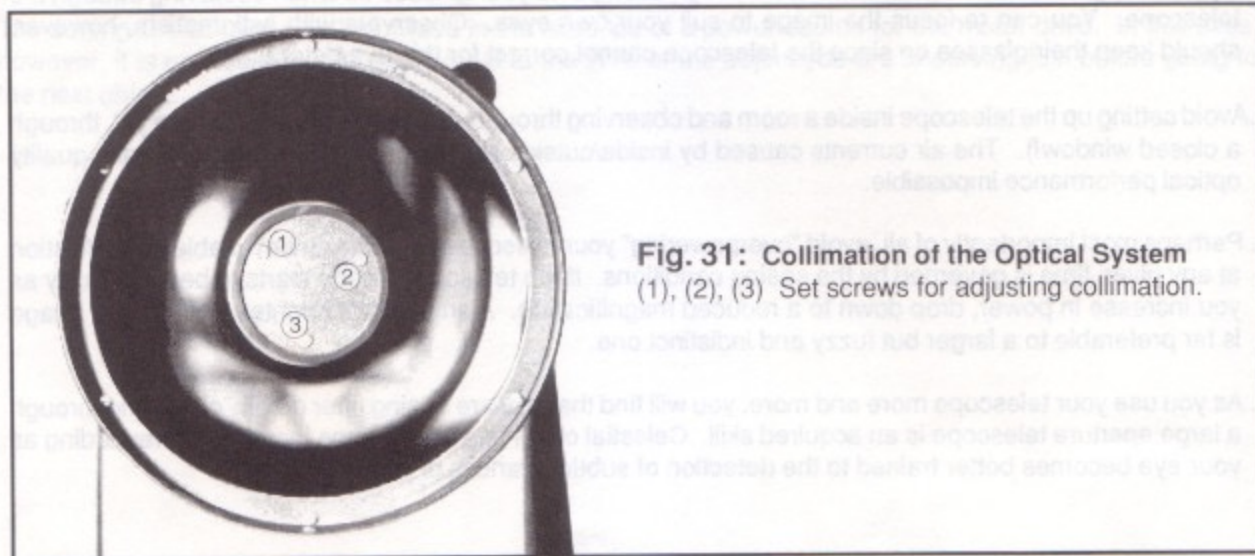

Fig. 31: Collimation of the Optical System
1. Note that the only optical alignment adjustment of the 2080 and 2120 models that is ever necessary or possible is the tilt-angle adjustment of the secondary mirror. Adjustment of this tilt-angle is achieved by turning the 3 set screws shown in Fig. 31, located at the edge of the outer surface of the secondary mirror housing.